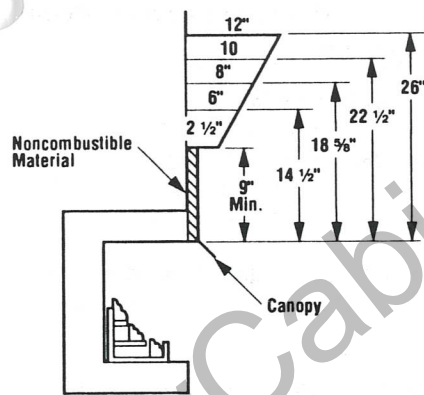

Figure 4
Step 4. Noncombustible material (minimum requirements) with wood mantel or other combustible projections: To install the firebox with a wood mantel, shelf or other combustible projection above firebox opening, at least 9" of noncombustible material must be installed above the fireboxes described in this manual (Figure 4).
WARNING: THE CANOPY HOOD MUST BE IN PLACE TO BE IN COMPLIANCE WITH THE CLEARANCES SPECIFIED IN FIGURE 4.